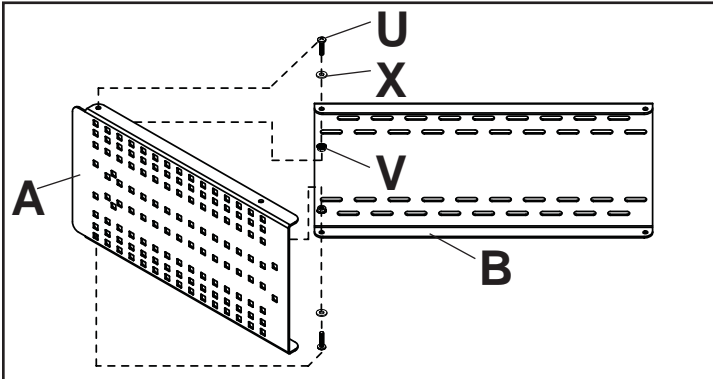
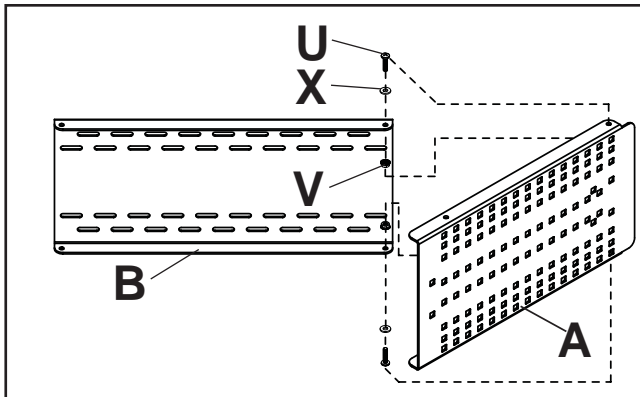

fig. 2.1
fig. 2.3
- 2** Attach interface plate (A) to wall plate (B) using one 1/4-20 x 1" round phillips head screw (U), 1/4" flat washer (X) and 1/4-20 flanged serrated locknut (V) as shown in fig 2.1 or 2.2 for interior corners or fig 2.3 and 2.4 for exterior corners. Repeat for opposite interface plate.